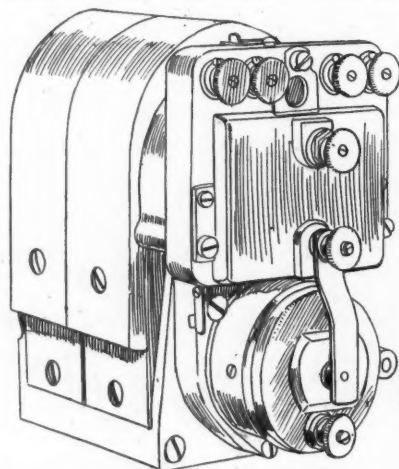

FIG. 21—HI-FRE-CO HIGH TENSION
**Hi-Fre-Co**—The Hi-Fre-Co ignition system, made by Dean Electric Company, consists of: First, a plain magneto, Fig. 21, with wires extending from the distributor to the resonators, which are attached to the plugs, shown in Fig. 9; second, a dual system in which a combined dash coil and switch is employed so that battery current can be used as a second source of electrical energy in place of the magneto current; third, a plain battery system in which a combination interrupter and distributor, together with a combined dash coil and switch, constitute the working elements. In all of these systems, the ignition spark is of a very high frequency, between 500,000 and 1,000,000 oscillation per second. This high frequency is obtained by the discharging of a very small condenser, which receives its charging current from the magneto armature or the battery coil, as the case may be. This